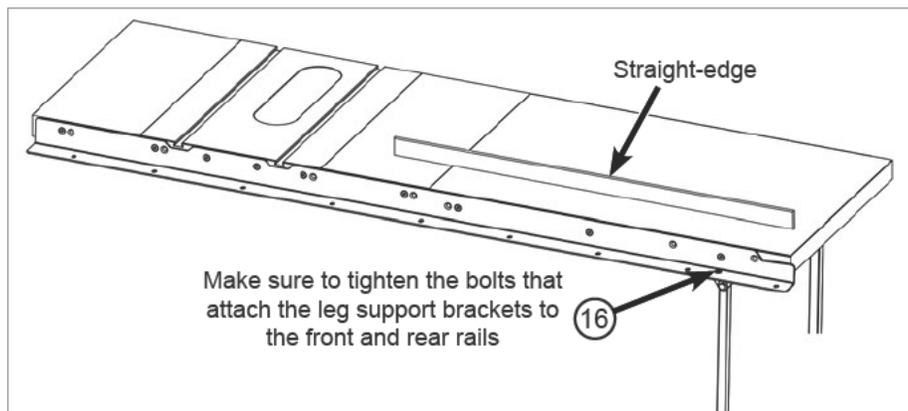

Fig. 24
- Use a straight-edge to level the front edge of the extension table to the saw table (See Fig. 24). You may have to pull up or push down on the extension table to level it. Once the front edge of the extension table is level, use a 5 mm hex key and a 13 mm wrench to fully tighten the nuts on the bolts along the front rail. Repeat the process to level the rear edge of the extension table. Also fully tighten the bolts that attach the leg support brackets to the front and rear rails (bolts 16 in step 8).